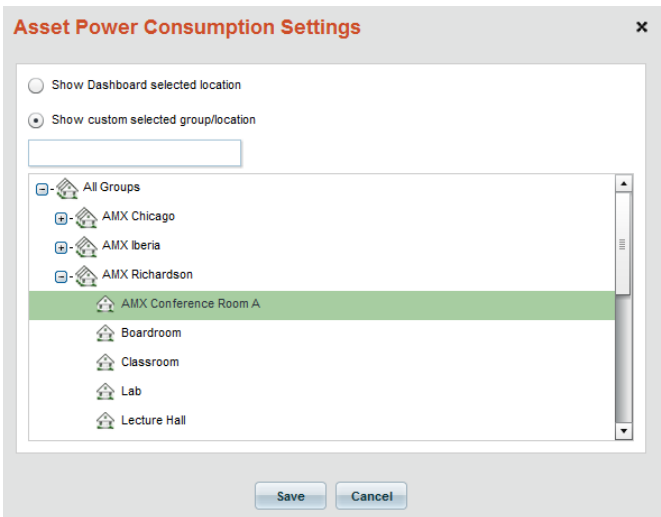

FIG. 108 Asset Power Consumption Settings dialog
2. Click **Show custom selected group/location** to enable the Location Groups selection window shown in FIG. 108: